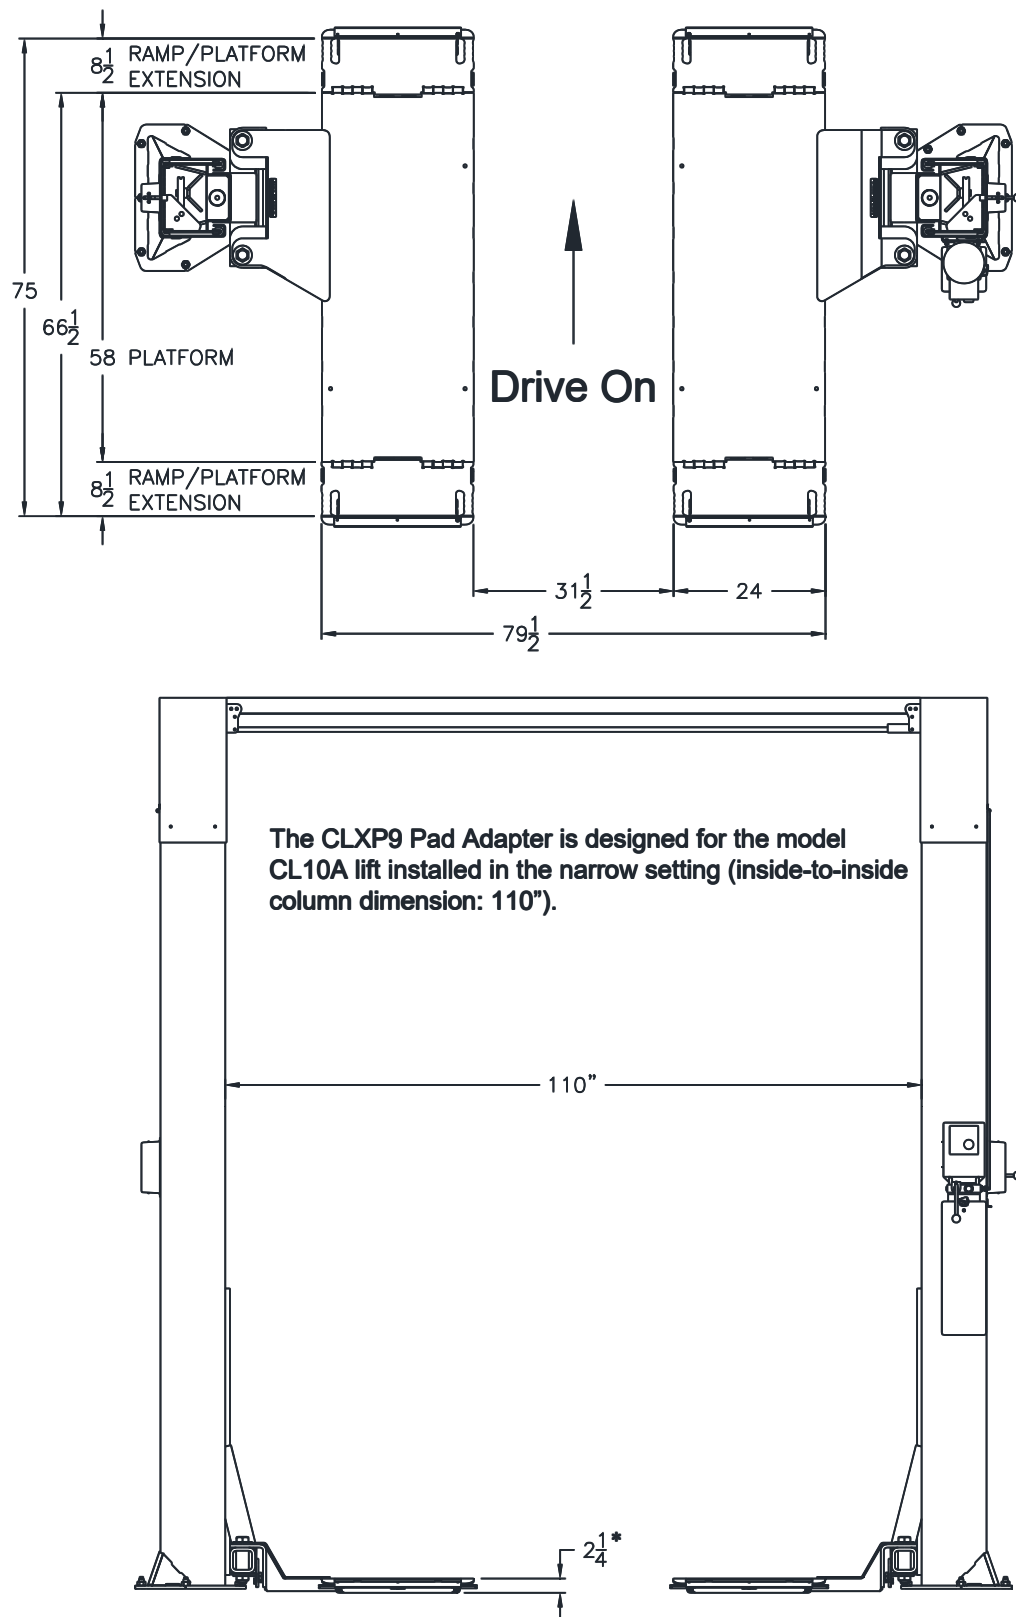
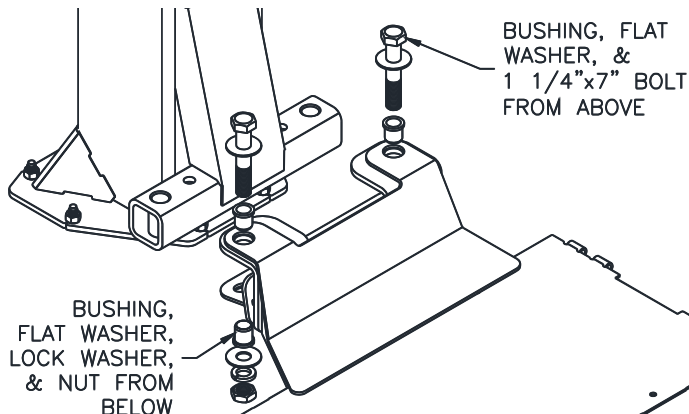

Fig. 1 GENERAL SPECIFICATIONS
Fig. 3 ATTACHING MAIN STRUCTURES
1. The CLXP9 Pad Adapter is designed for the model CL10A lift installed at the narrow setting (inside-to-inside column dimension: 110"), **Fig. 1**.
3. Install the left and right Pad Adapter Main Structures as shown in **Fig. 3**. Note Pad Adapter orientation in **Fig. 1**. This 1 1/4" bolted connection should only be tightened to **approximately 20 ft-lbs. for now** (tight enough to remove the gaps, but not so tight that it limits the ability to level the Pad Structures).